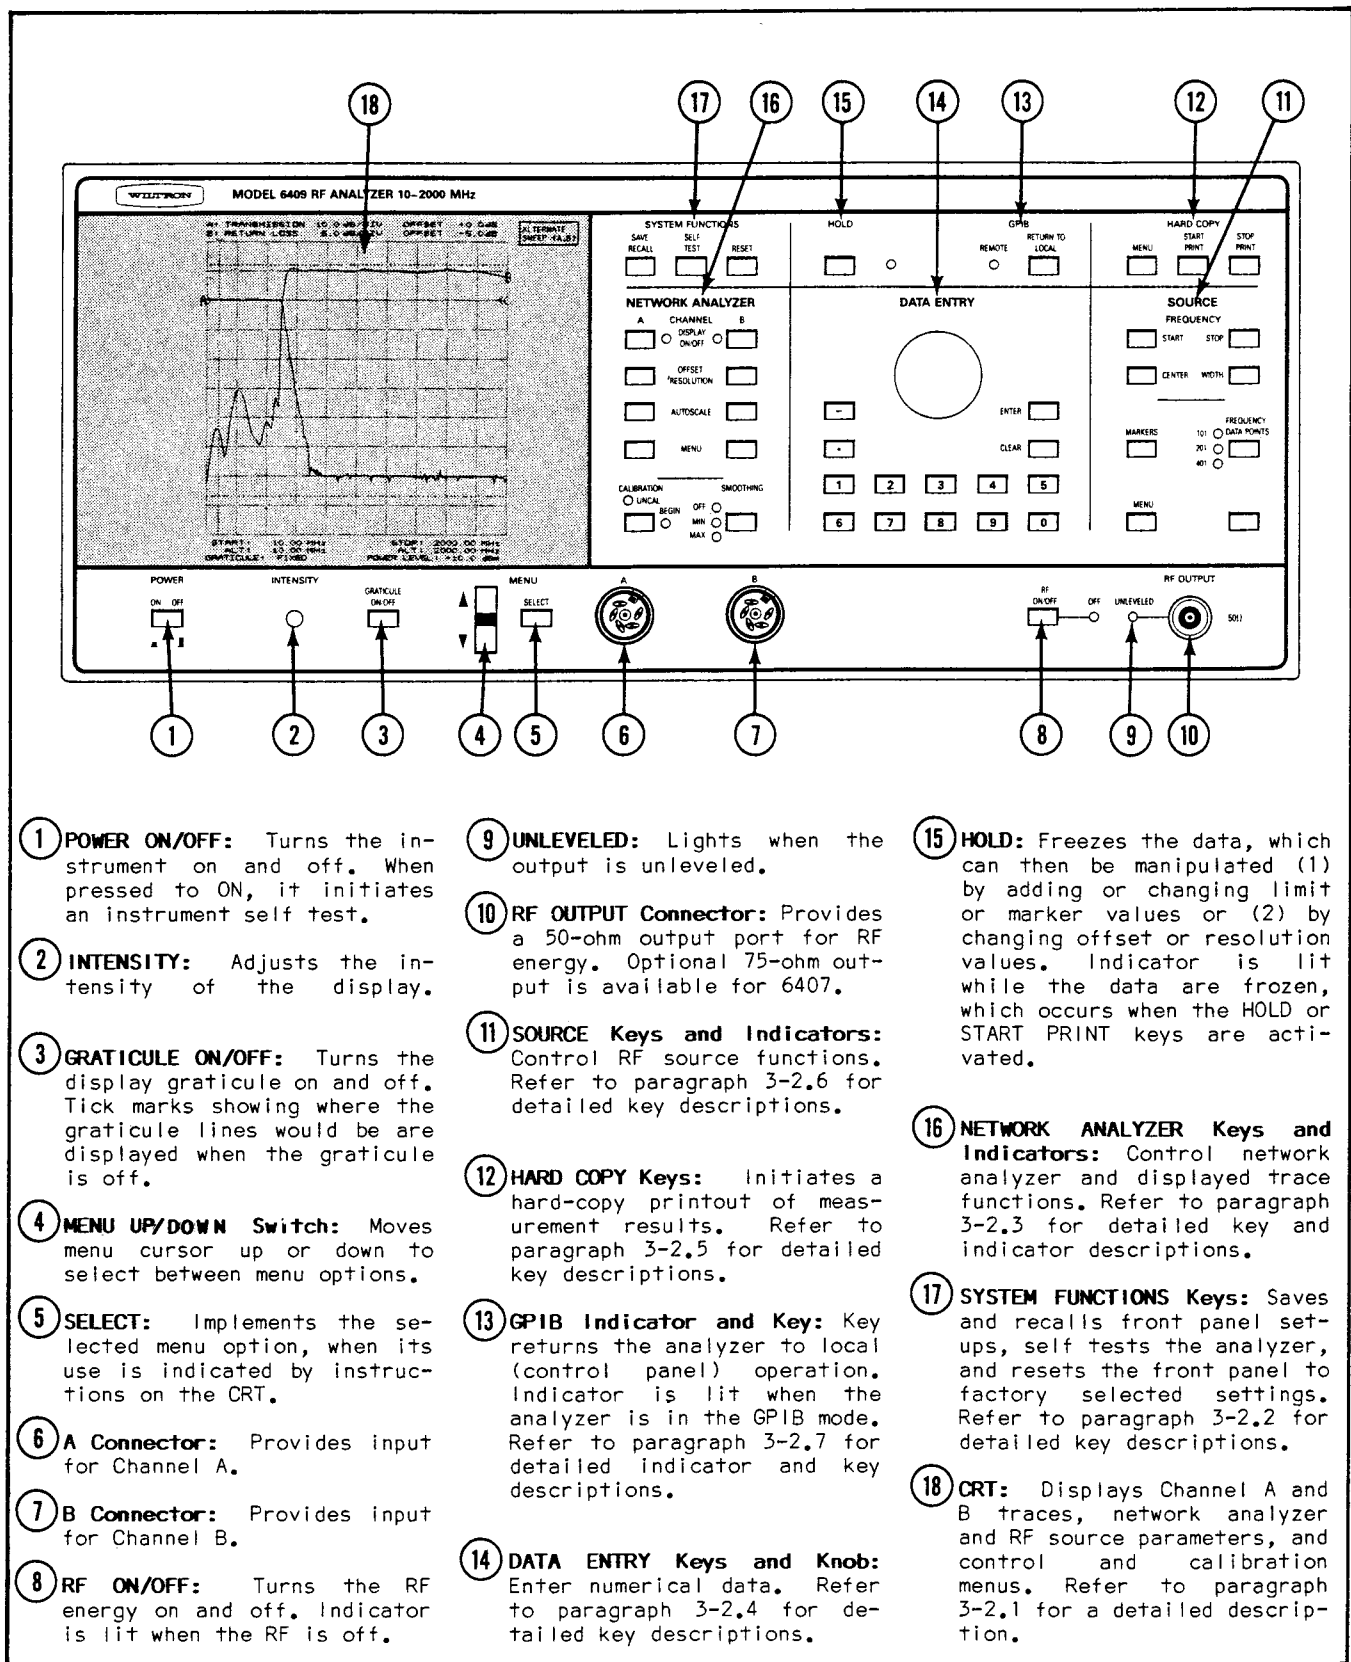
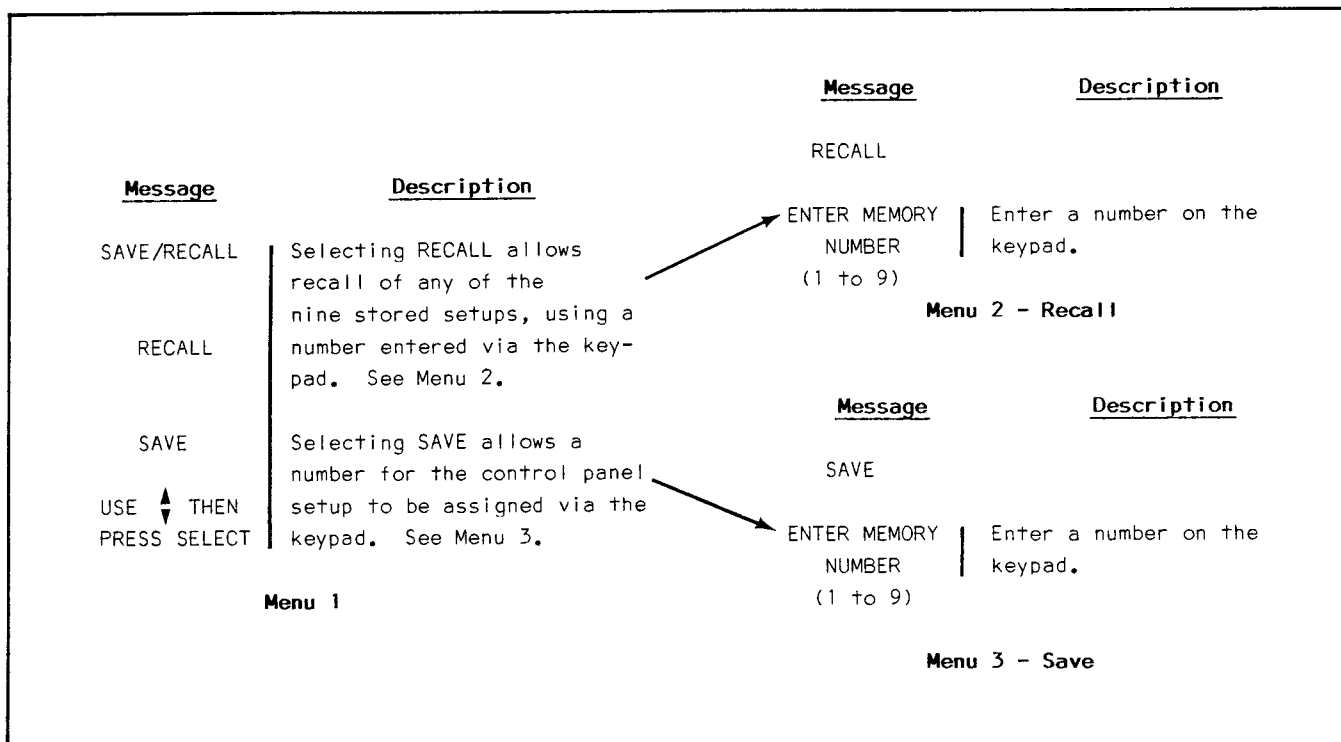

Figure 3-1. Model 6409 RF Analyzer Front Panel Controls
Figure 3-4. SAVE/RECALL Key Menus
Operation of the control panel controls is described in Figure 3-1 and in paragraphs 3-2.1 thru 3-2.7.
- a. SAVE/RECALL Key: Displays a menu (Figure 3-4) that lets the operator SAVE the current control panel setting or RECALL any of nine stored front panel setups. The MENU rocker switch (Figure 3-1) is used to make the selection. Should this key be pressed and then not wanted, the DATA ENTRY CLEAR (Figure 3-10) key can be used to cancel the key action.
- c. **RESET Key:** Displays a menu (Figure 3-5) that lets the operator use the MENU SELECT key (Figure 3-1) to restore the factory-selected control panel settings. The settings for the 6409 and 6407 (in parenthesis) are shown below.